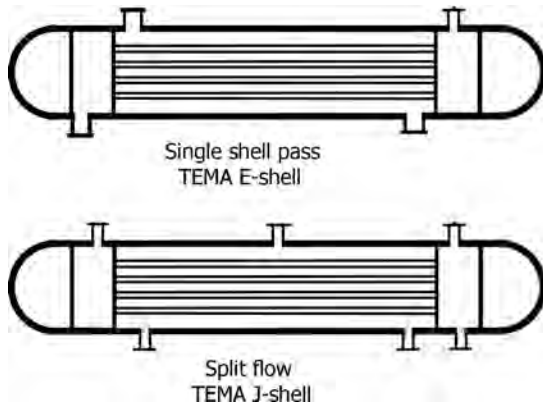

FIGURE 10.38 Comparison of E and J shells for flow directions.
- Figure 10.38 compares E and J shells for flow directions.